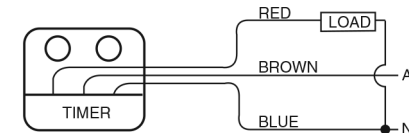

Figure 5: Wiring Diagram
- Terminate wires as indicated in the wiring diagram (see figure 5)